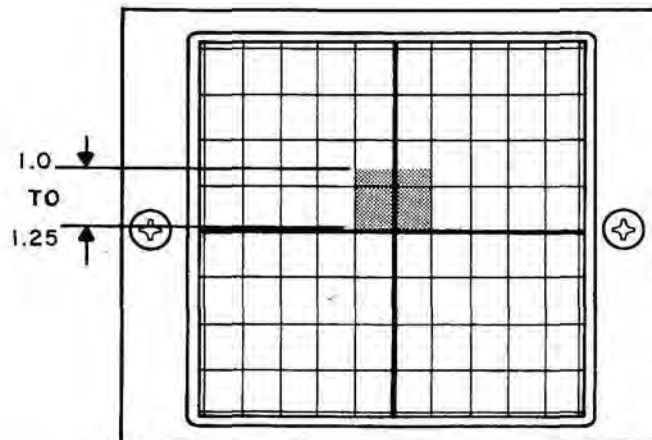

Figure 3-18 Amplitude Of 2 kHz FM Deviated Signal Shown Between 1.0 And 1.25 Graticule Divisions In Height
12. Rotate BFO-RF LEVEL Control (7) fully ccw.
13. Rotate DEV-VERT Control (33) to "1 V/DIV", HI LVL/ μ V X 100/NORM Switch (3) to "HI LVL", and adjust BFO-RF LEVEL Control (7) cw until 0 dBm Lamp (2) illuminates. Verify that the display is between 1.0 and 1.25 graticule divisions in height on CRT Display (36).
14. Adjust HORIZ Control (38) and VERT Control (40) to center display over major horizontal axis, to facilitate measurement of displayed signal (see Figure 3-18).